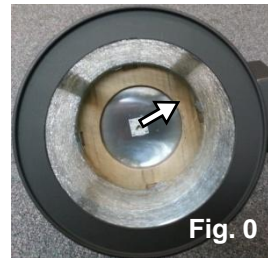

Fig. 0
- Remove the cardboard rings under the HOOD and then reattach the HOOD to the CAGE using the CAGE SCREWS. (Fig. 0)